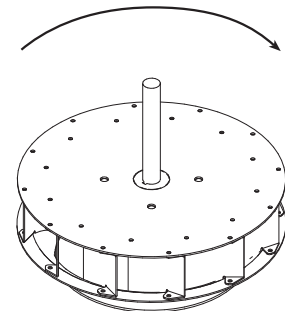

Figure 8
- Check wheel rotation (viewing from the shaft side) by momentarily energizing the unit. Rotation should be clockwise and correspond to the rotation decal on the unit, see figure 8. If wheel rotation is incorrect reverse two of the wiring leads or check motor wiring for single phase.
3. Start the fan and shut it off immediately to check rotation of the wheel with directional arrow in the motor compartment, see figure 8.